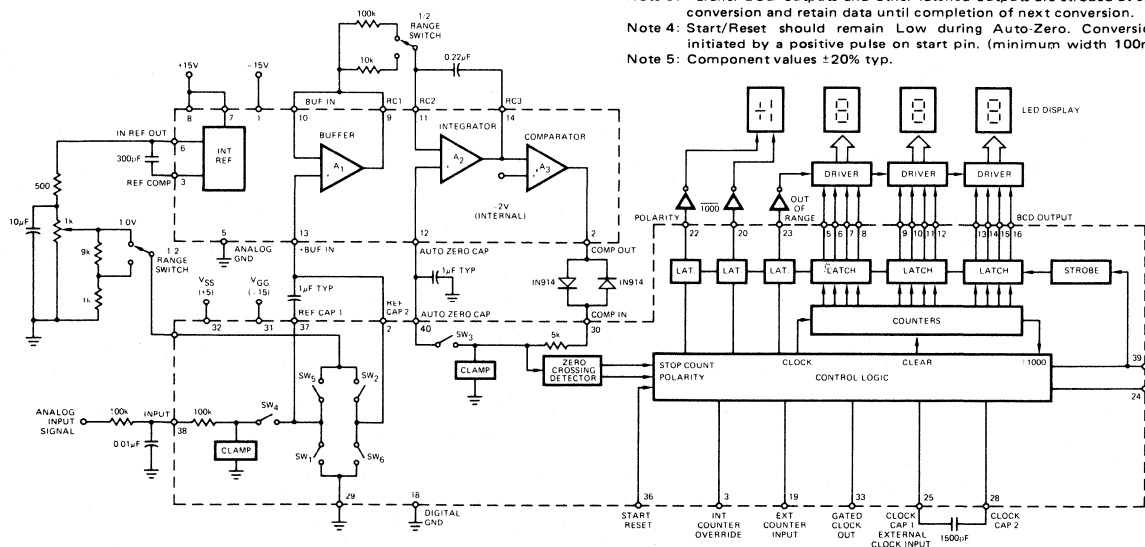

FIGURE 1. 3 1/2 DIGIT A/D CONVERTER FUNCTIONAL DIAGRAM
(1) Tested in 3 $\frac{1}{2}$ digit (2,000 count) circuit shown in Fig. 1 clock frequency 20kHz.
Figure 1 shows a typical circuit for a DVM. A minimum of external components is required since the chips have an on-board clock and a medium-quality ($40\text{ppm}/^\circ\text{C}$) internal reference. The circuit also shows the switching required for two scale factors: 2.000V and 200.0mV full scale.